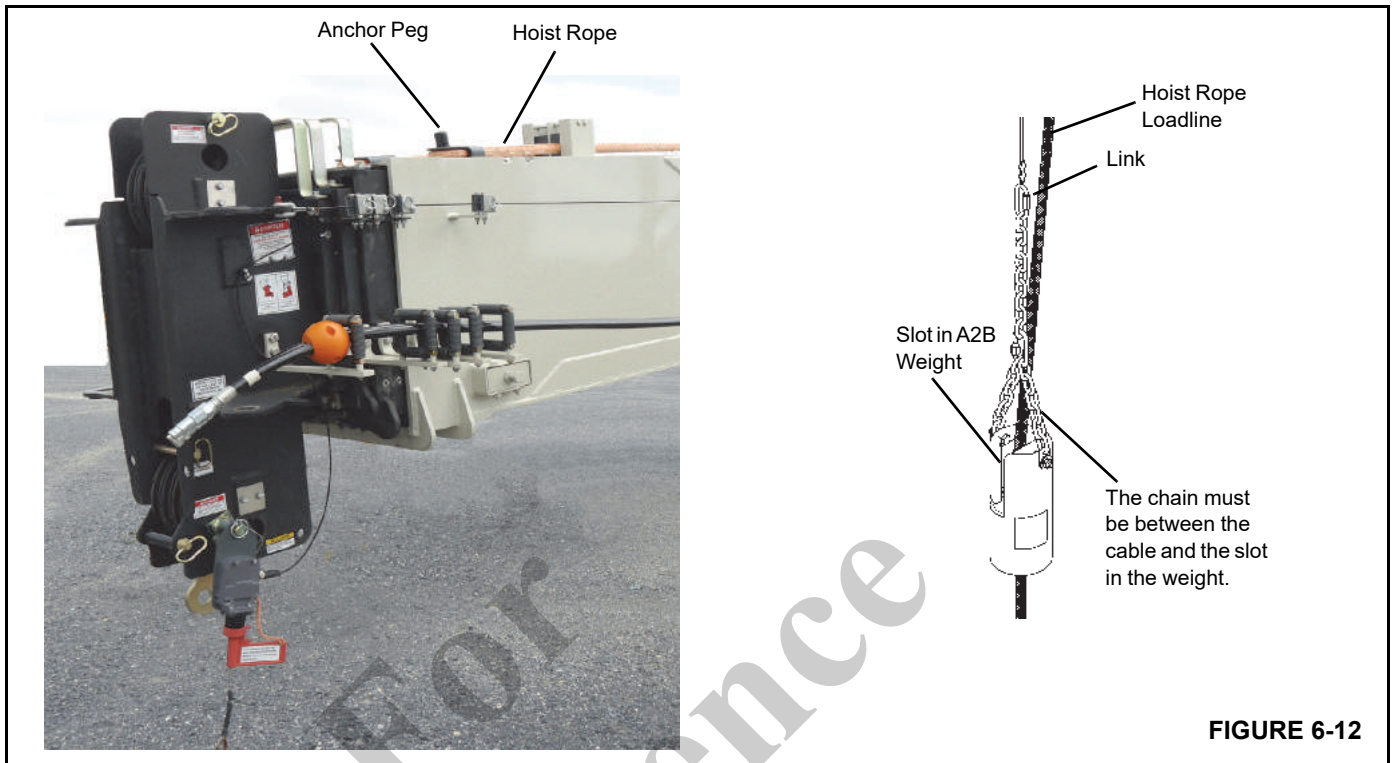

FIGURE 6-12
2. Remove the anti-two-block (A2B) weight from the loadline (See Figure 6-12).